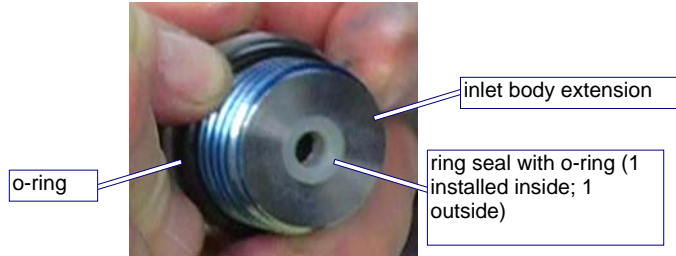

Figure 6-81: Installing Ring Seals and O-rings in the Inlet Body Extension
3. Place the large **o-ring** on the bottom of the **inlet body extension** (Figure 6-81).